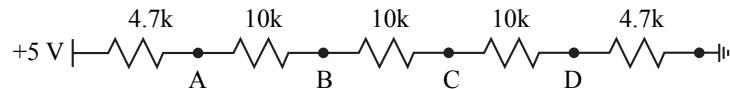

Figure 3.5: Resistor ladder example
1. Using the circuit in Figure 3.5, calculate the ideal voltages for nodes A, B, C, and D. Table the values for future comparison.
2. Construct the circuit in Figure 3.5 and measure the actual voltages using the oscilloscope. Table the values.